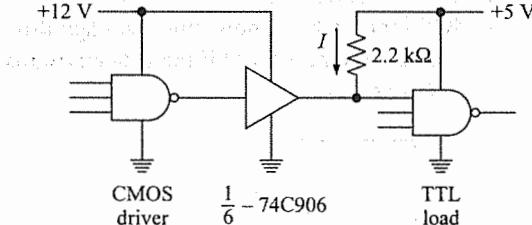

Fig. 14.59
- 14.46 Ideally, what is the sink current  $I$  in Fig. 14.59? If the TTL load has a high-state input current of  $40 \mu\text{A}$ , what is the voltage drop across the  $2.2 \text{ k}\Omega$ ?
14.47 If the input capacitance of the TTL load is  $10 \text{ pF}$ , what does the pull-up time constant equal in Fig. 14.59?
14.48 What is the maximum sink current for the 74C906 in Fig. 14.59?